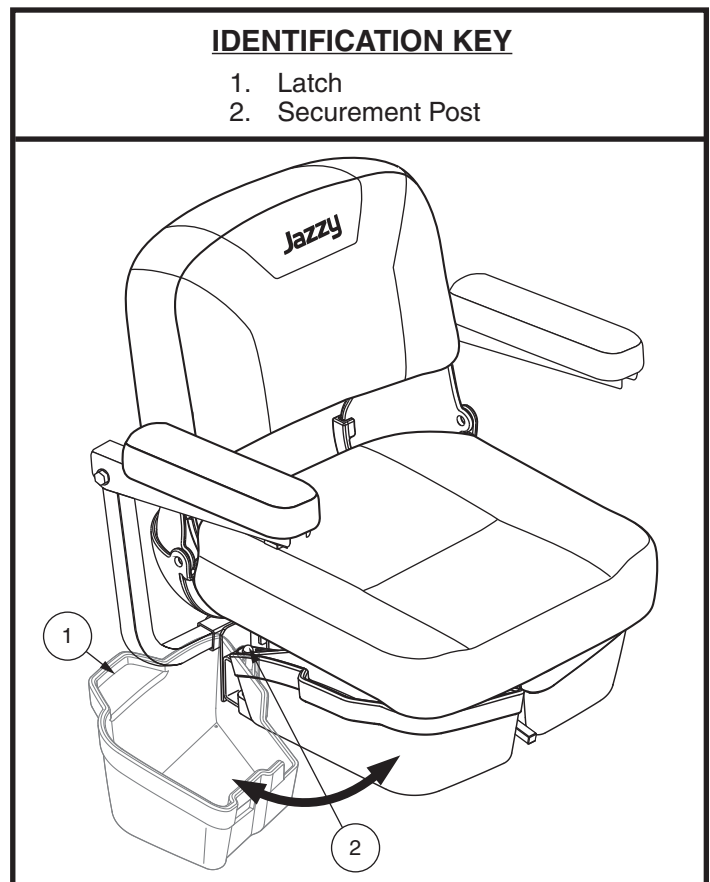

Figure 26. Under-seat Storage
1. Lift up slightly on the latch on the side of the under-seat storage bin (see figure 26) and swing the under-seat storage bin out and away from the Travel Scooter.
1. Lift up slightly on the latch on the side of the under-seat storage bin (see figure 26) and swing the under-seat storage bin out and away from the travel scooter until it is fully open.
2. If equipped, remove under-seat storage. See **Figure 26**.
7. If equipped, install under-seat storage. **See figure 26.**